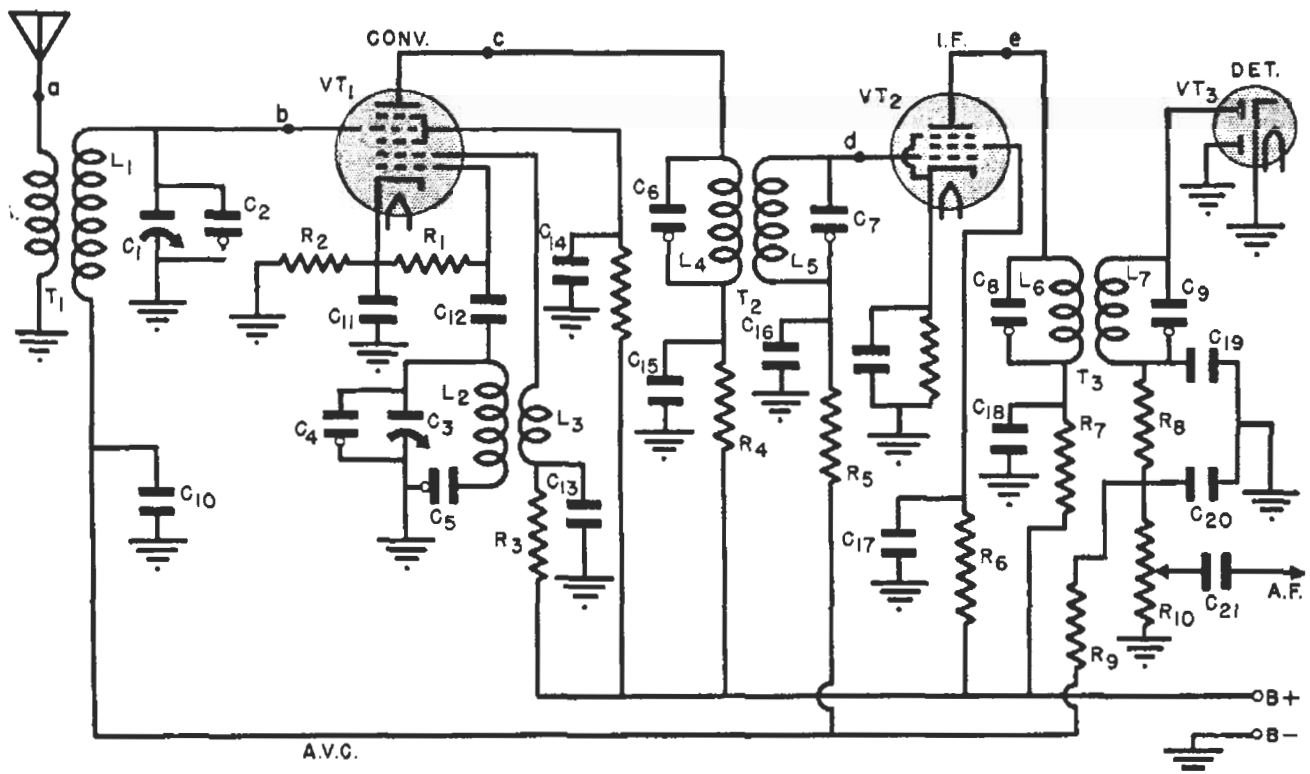

FIG. 6. This single-band superheterodyne diagram shows the connecting points for the s.g.
**Step 1.** Suppose the receiver is similar to the one shown in Fig. 6. Here we have a single-band, conventional first-detector-oscillator tube stage, followed by an intermediate frequency stage, which in turn feeds into the second detector.
between the control grid of the converter tube (point *b* in Fig. 6) and chassis to align the i.f. section. The receiver is normally tuned to the low-frequency end of the broadcast band, at some point where no local station interference will exist. Furthermore, by tuning the receiver to the low-frequency end of the dial, the tuned circuit  $L_1-C_1$  will not act quite so much as a short circuit to the output from the signal generator.
► In the i.f. amplifier stage shown in Fig. 6, tuned primary and secondary (double-resonant) i.f. transformers are used. These are extensively used in supers, yet other types will be encountered. Transformers having only the primary or only the secondary tuned are often found in the less expensive four-, five- and six-tube supers. No difficulty should be experienced when you run across these units, as the single adjustment per transformer is made for maximum output, as with other i.f. transformers.
The receiver dial is now set at the highest frequency marked on the dial, if it extends to 1600 or 1700 kc., and the generator is set to the same frequency. The oscillator high-frequency trimmer ( $C_4$  in Fig. 6) is then adjusted for maximum response.
In a circuit such as shown in Fig. 6, we should start the alignment with the signal generator connected to point *d*.